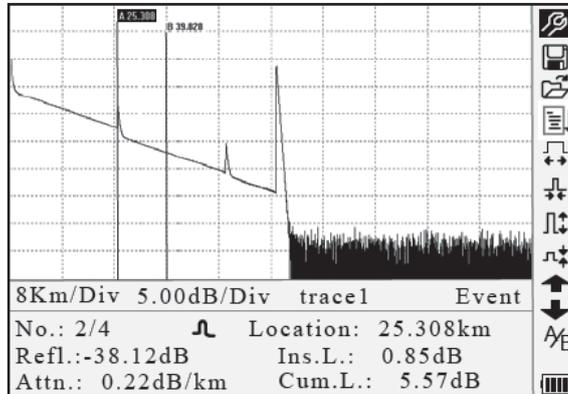
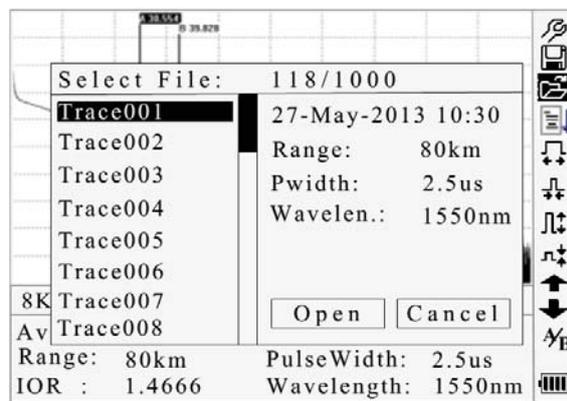

Figure 4-4. Trace Measurement
Figure 4-7. Browse Saved Traces
Note: After a certain period of time, the trace displays on the GUI. The trace in the figure below is a trace during measurement, which will be refreshed for every certain period of time to demonstrate the whole process in realtime. But at the end of measurement the trace will be complete, as shown in Figure 4-4.
Under GUI (Figure 4-4) press **↩** and the items in the information window will display in this order: measurement parameters → analysis information → events list → marker A/B information → fiber information → measurement parameters.
Under GUI (Figure 4-4) press **↩** until the events list information appears in the information window.
Under GUI (Figure 4-4) use **▲** and **▼** to highlight **A/B**, and then press **Enter** to switch between marker A/B.
Under GUI (Figure 4-4) press **↩** to switch the information window to marker A/B information.
1. Under GUI (Figure 4-4) use **▲** and **▼** to highlight **↔**, and then press **Enter** to zoom out the trace horizontally.
Under GUI (Figure 4-4) use **▲** and **▼** to highlight **↔**, and then press **Enter** to zoom in the trace horizontally.
1. Under GUI (Figure 4-4) use ▲ and ▼ to highlight ⚡, and then press **Enter** to zoom out the trace vertically.
Under GUI (Figure 4-4) use ▲ and ▼ to highlight ⚡, and then press **Enter** to zoom in the trace vertically.
1. Under GUI (Figure 4-4) use ▲ and ▼ to highlight 📁, and then press **Enter** to enter (Figure 4-6).
1. Under GUI (Figure 4-4) use ▲ and ▼ to highlight , and then press **Enter** to confirm (Figure 4-7).